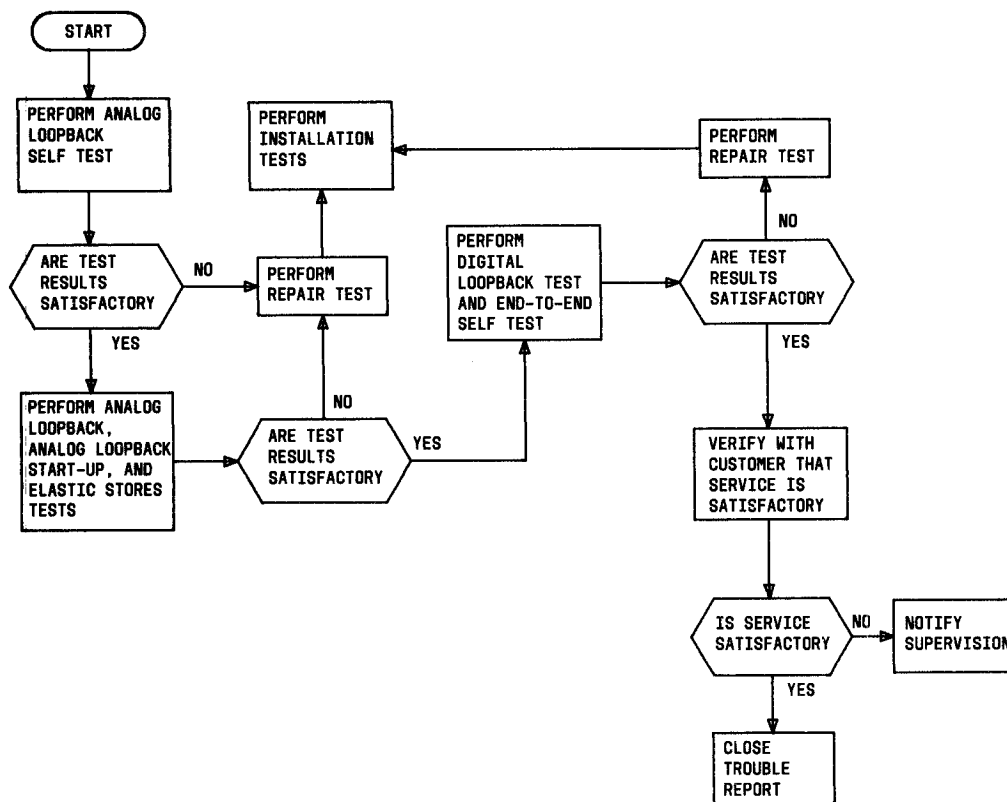

Fig. 4—Maintenance Test Sequence
**3.01** This part provides the sequence (Fig. 4) in which tests are to be performed during a maintenance visit to the data station. This test sequence provides a method of isolating a trouble to the data set or the customer-provided equipment (CPE). It is assumed that the maintenance procedures in Section 592-032-300 have been followed prior to dispatching a telco employee to the data station. If the data set is found to be defective, procedures are provided for isolating the trouble